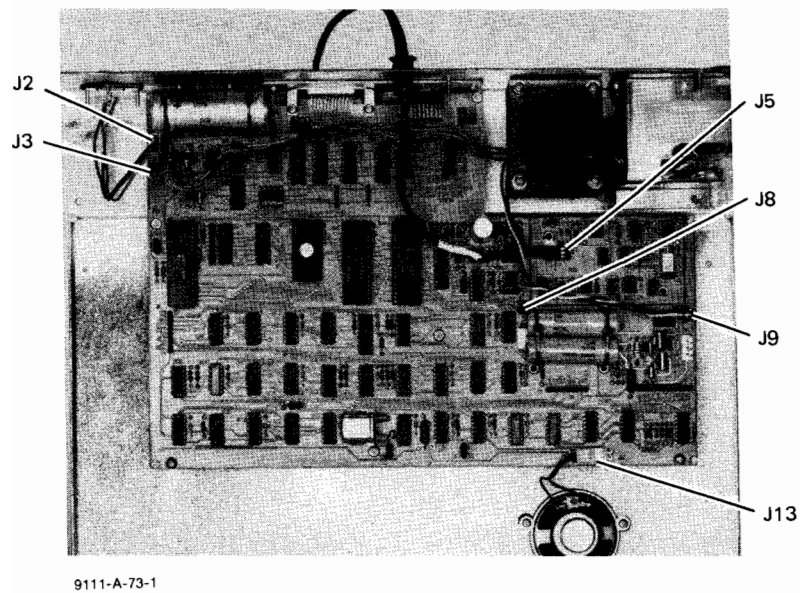

Figure 4-10. Connector Location
- b. Unplug the power transformer leads from the PCA at J3 and J9. See Figure 4-10.